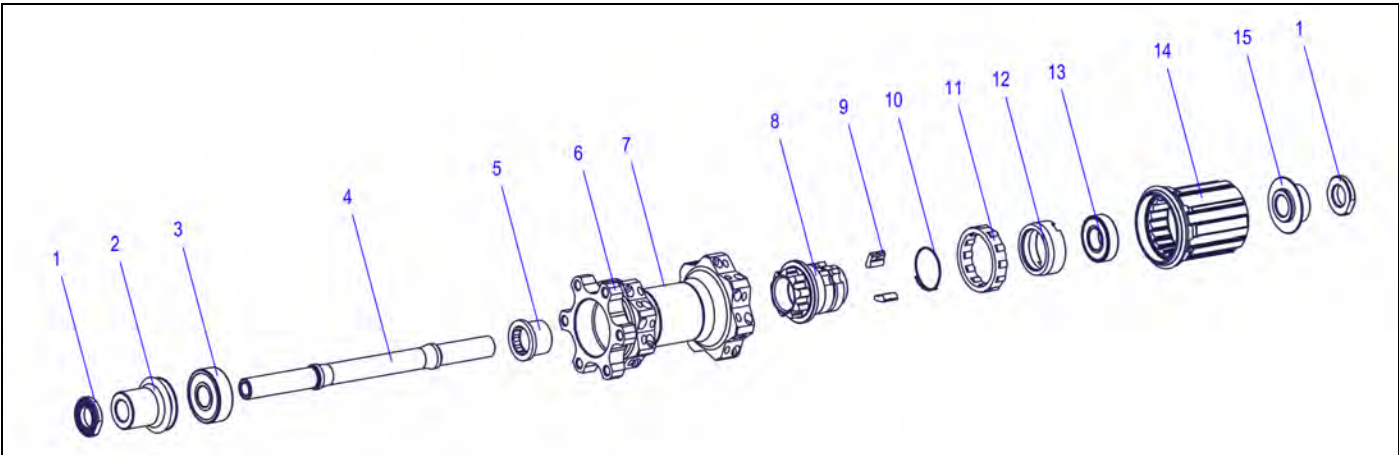

figure 3.3: Overview Two Pawl System
2. Unscrew the knurled disc (fig.3.3/1) on the rotor side using a 17 mm wrench.
3. Remove the knurled disc (fig.3.3/1) and the adapter (fig.3.3/15).
4. Carefully slide the rotor (fig.3.3/14) off the hub.
6. Unscrew the knurled disc (fig.3.3/1) using a 17 mm wrench.
7. Remove the knurled disc (fig.3.3/1) and the adapter (fig.3.3/15).
1. Push the spring (fig.3.3/10) out of the groove using a flat screwdriver.
2. Slide the spring (fig.3.3/10) upwards and remove it.
3. Remove both pawls (fig.3.3/9).
4. Slide the needle cage (fig.3.3/11) upwards and remove it.
1. Dismount the bearing (fig.3.3/3) opposite to the drive side by hitting the axle (fig.3.3/4) with a nylon hammer.
2. Remove the bearing (fig.3.3/3) from the axle (fig.3.3/4).
3. Slide the axle (fig.3.3/4) through the bearing (fig.3.3/13) on the drive side.
5. Remove the bearing (fig.3.3/13) from the axle (fig.3.3/4).
The pawl (fig.3.3/5) carrier and the bearing shell (fig.3.3/12) must only be dismounted, if they are damaged!
2. Put the axle (fig.3.3/4) into the installation tool.
3. Slide the hub shell (fig.3.3/6) onto the installation tool and the axle.
4. Put the wrench for the bearing shell (fig.3.3/12) onto the bearing shell.
5. Unscrew the bearing shell (fig.3.3/12) using a 27 mm wrench.
8. Put the hub body (fig.3.3/6) onto the Allen key.
9. Turn the wheel anti clockwise and loosen the pawl carrier (fig.3.3/5).
- 11.** Remove the pawl carrier (fig.3.3/8) and the screw fitting (fig.3.3/5).
3. Clean the rotor (fig.3.3/14) with a mild cleaner.
7. Remove bad notches from the rotor (fig.3.3/14) using a file.
3. Put the screw fitting (fig.3.3/5) onto the Allen key.
4. Put the hub shell (fig.3.3/6) onto the screw fitting.
5. Put the pawl carrier (fig.3.3/8) into the hub shell (fig.3.3/6).
9. Put the long side of the axle (fig.3.3/4) into the installation tool.
11. Screw the bearing shell (fig.3.3/12) onto the pawl carrier (fig.3.3/8) by hand.
12. Put the wrench for the bearing shell onto the bearing shell (fig.3.3/12).